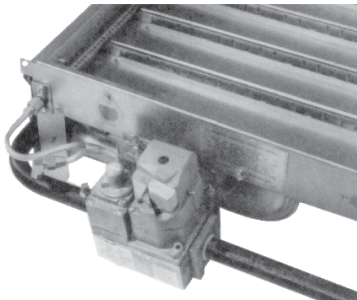

Figure 62. Natural Gas Connections
- c. For natural gas units, install and tighten aluminum tube between carryover orifice and brass elbow as shown in Figure 62.